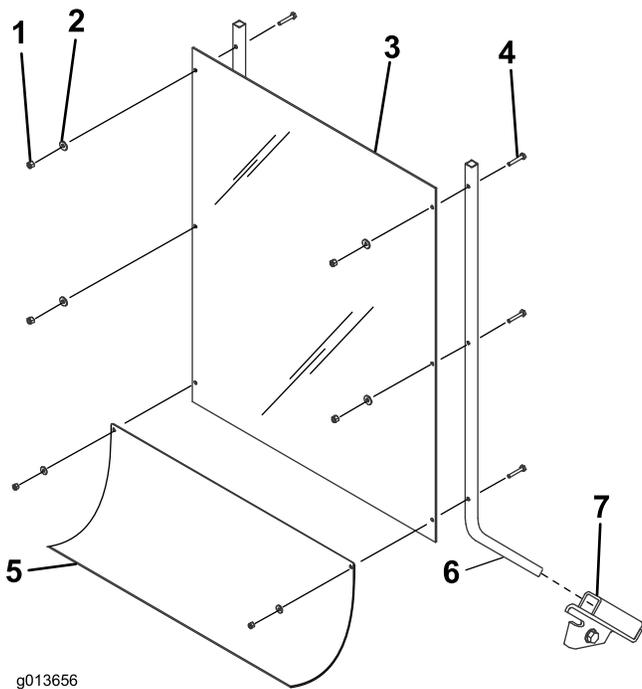

Figure 6
- Slide the shield supports into the pockets in the shield brackets on the traction unit (Figure 6).
- Assemble the shield and flexible skirt to the shield supports as illustrated in Figure 6, using 6 bolts (1/4 x 1-1/2 inch), washers, and locknuts (1/4 inch).